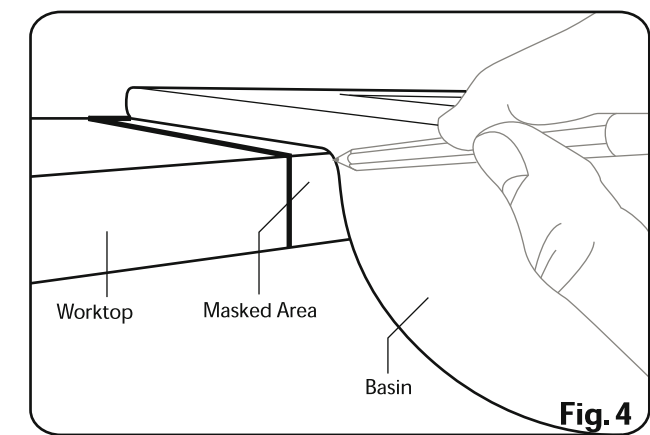

Fig. 4
8. Drop the basin into the slot on the worktop and find its central position then mark where the curved sides meet the worktop front (See Fig. 4).